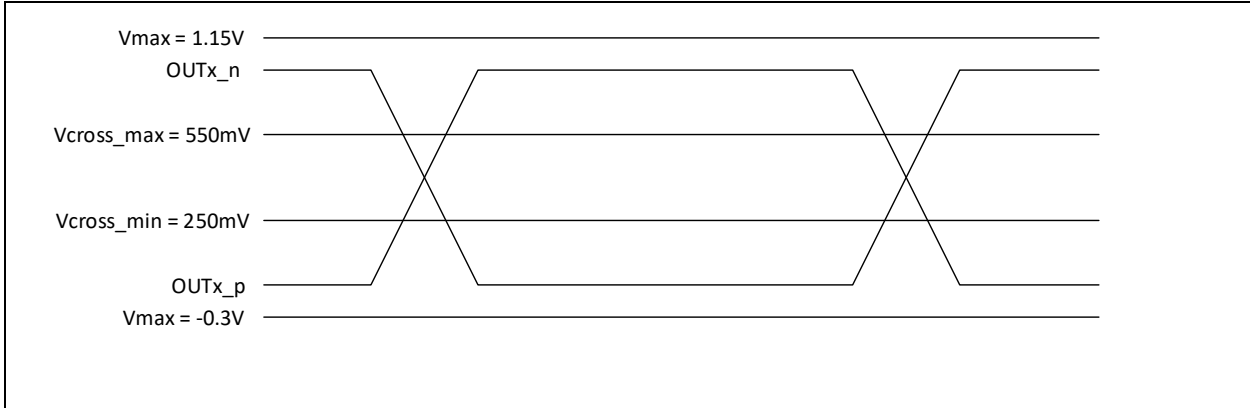

Figure 18. Single-Ended Measurement Points for Absolute Cross Point and Swing
(4) Measured at crossing point where the instantaneous voltage value of the rising edge of CK equals the falling edge of CK# . See Figure 18
(5) Refers to the total variation from the lowest crossing point to the highest, regardless of which edge is crossing. Refers to all crossing points for this measurement. See Figure 18.
(6) This requirement, from PCI Express Base Specification, Revision 4.0 is applicable only to clock generators and not to buffers. A clock buffer is a transparent device whose output clock period follows the input clock period.
(7) Defined as the maximum instantaneous voltage including overshoot. See Figure 18.
(8) Defined as the minimum instantaneous voltage including undershoot. See Figure 18.